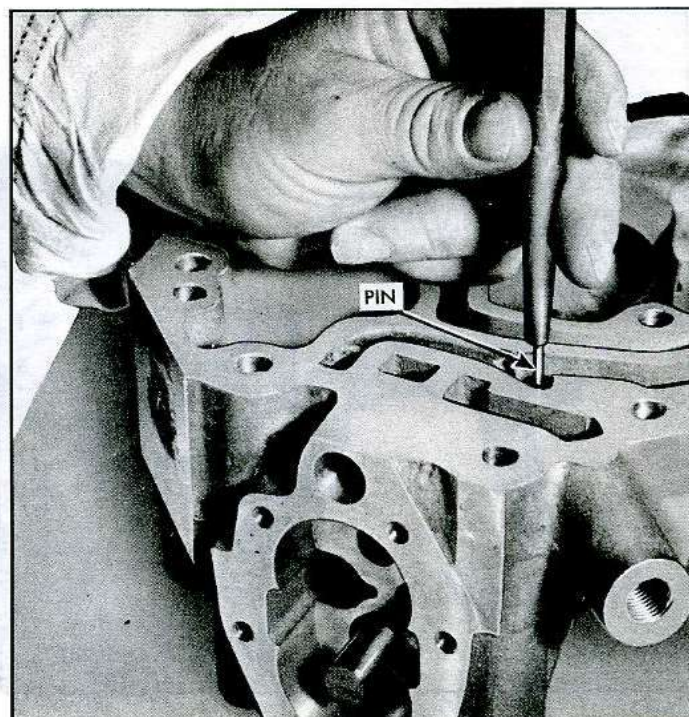

Fig. 116—Installing Pressure Regulator Groove Pin
1. Install groove pin (fig. 116) which holds oil pump pressure regulator valve in place (if so equipped).